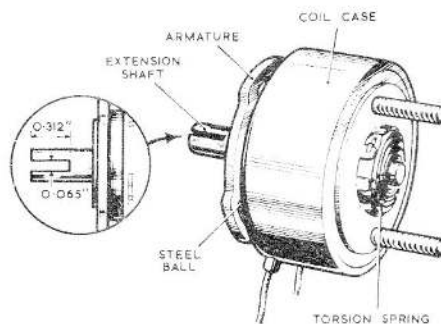

Fig. 1. Rotary solenoid, Type 312 BD
2. The unit (fig. 1) is provided with a slotted extension shaft, for engagement with the